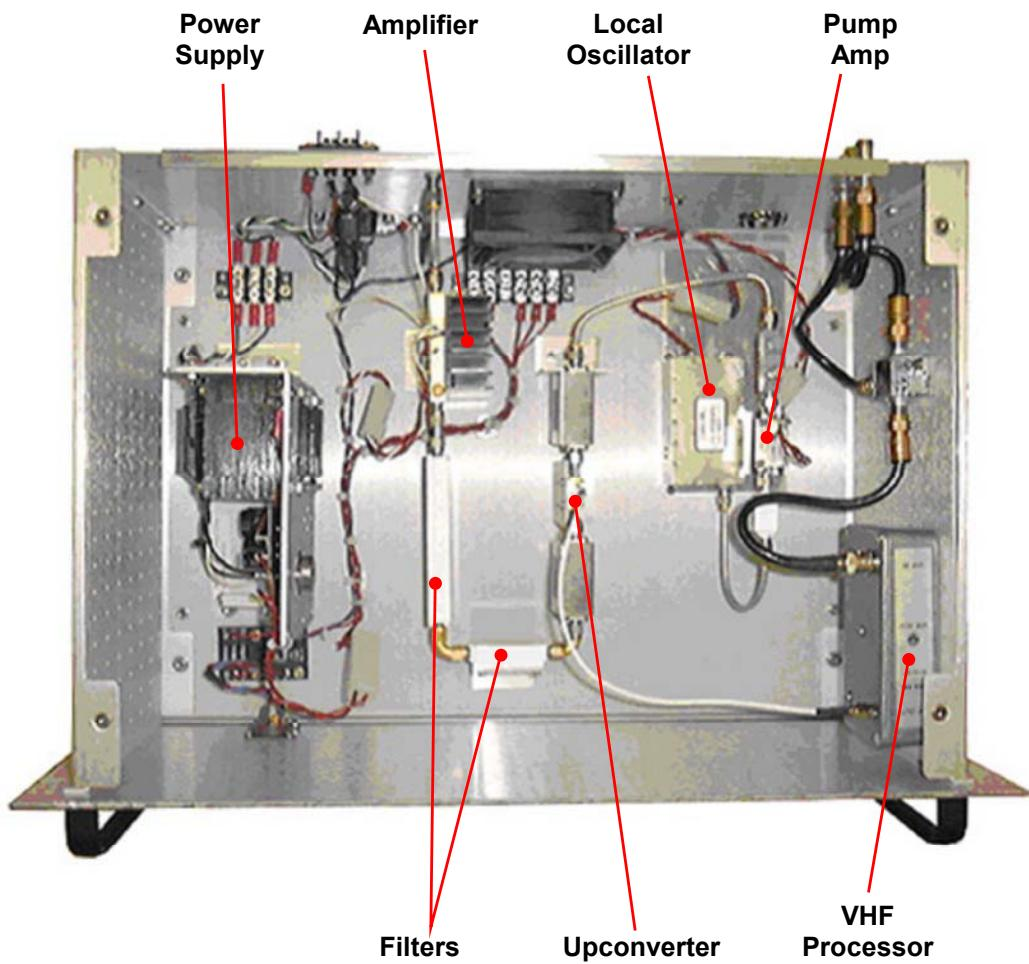

Figure 5. Driver Chassis Component Layout.
- **RF Diagnostics** - Two RF test point output "N" connectors for Driver RF output and Transmitter Monitor output are provided on the front panel. The locations in the circuitry are shown in Figure 5
- **XO and VHF Input Test Points** - Crystal oscillator (XO) monitor, VHF input and output signal test point "F" connectors are provided on the front panel.
If it is not convenient to control the input level by means of external pads, it can be controlled by an internal attenuator located in the Driver Chassis (see Figure 5).